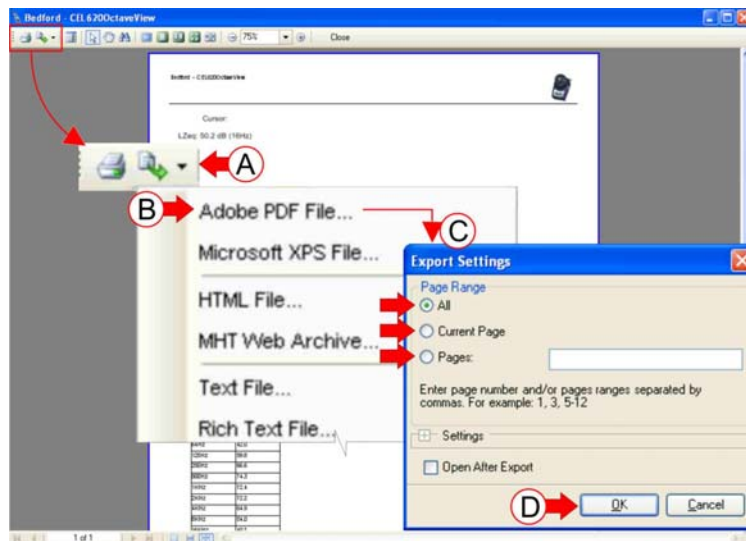

Figure 40 Export Octave Data
EXPORT (Refer to Figure 40) – Press the drop down menu button (A). Select an export format (B). The Export Settings window (C) is displayed. Make the appropriate selections on the Export Settings window and press **OK** (D).